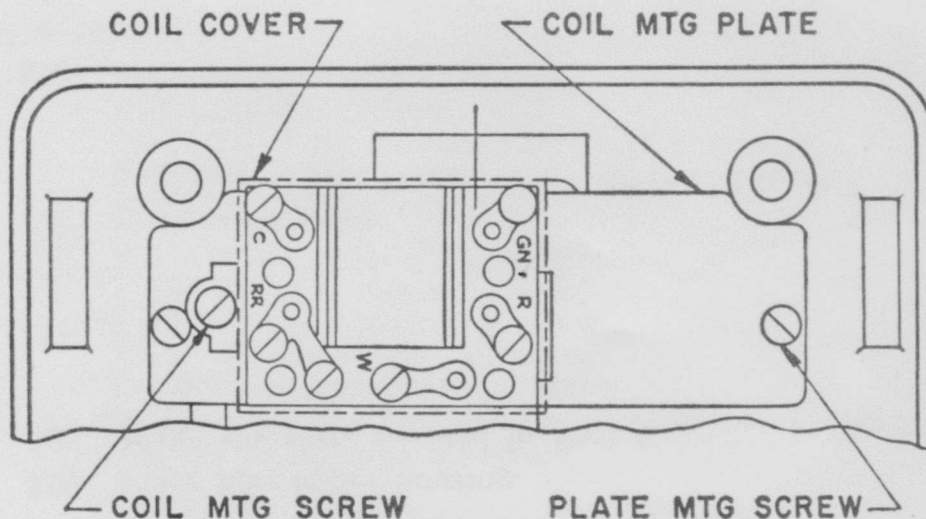

Fig. 1—Induction Coil Mounting
5.02 Check induction coil for position. If GN and R terminals are on the left-hand side, the induction coils should be removed and mounted as shown in Fig. 1.